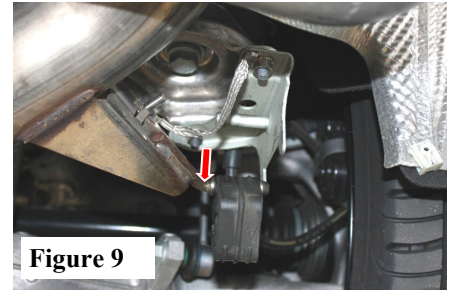

Figure 9
10. Remove all hangers from rubber isolators. (See Fig. 9)